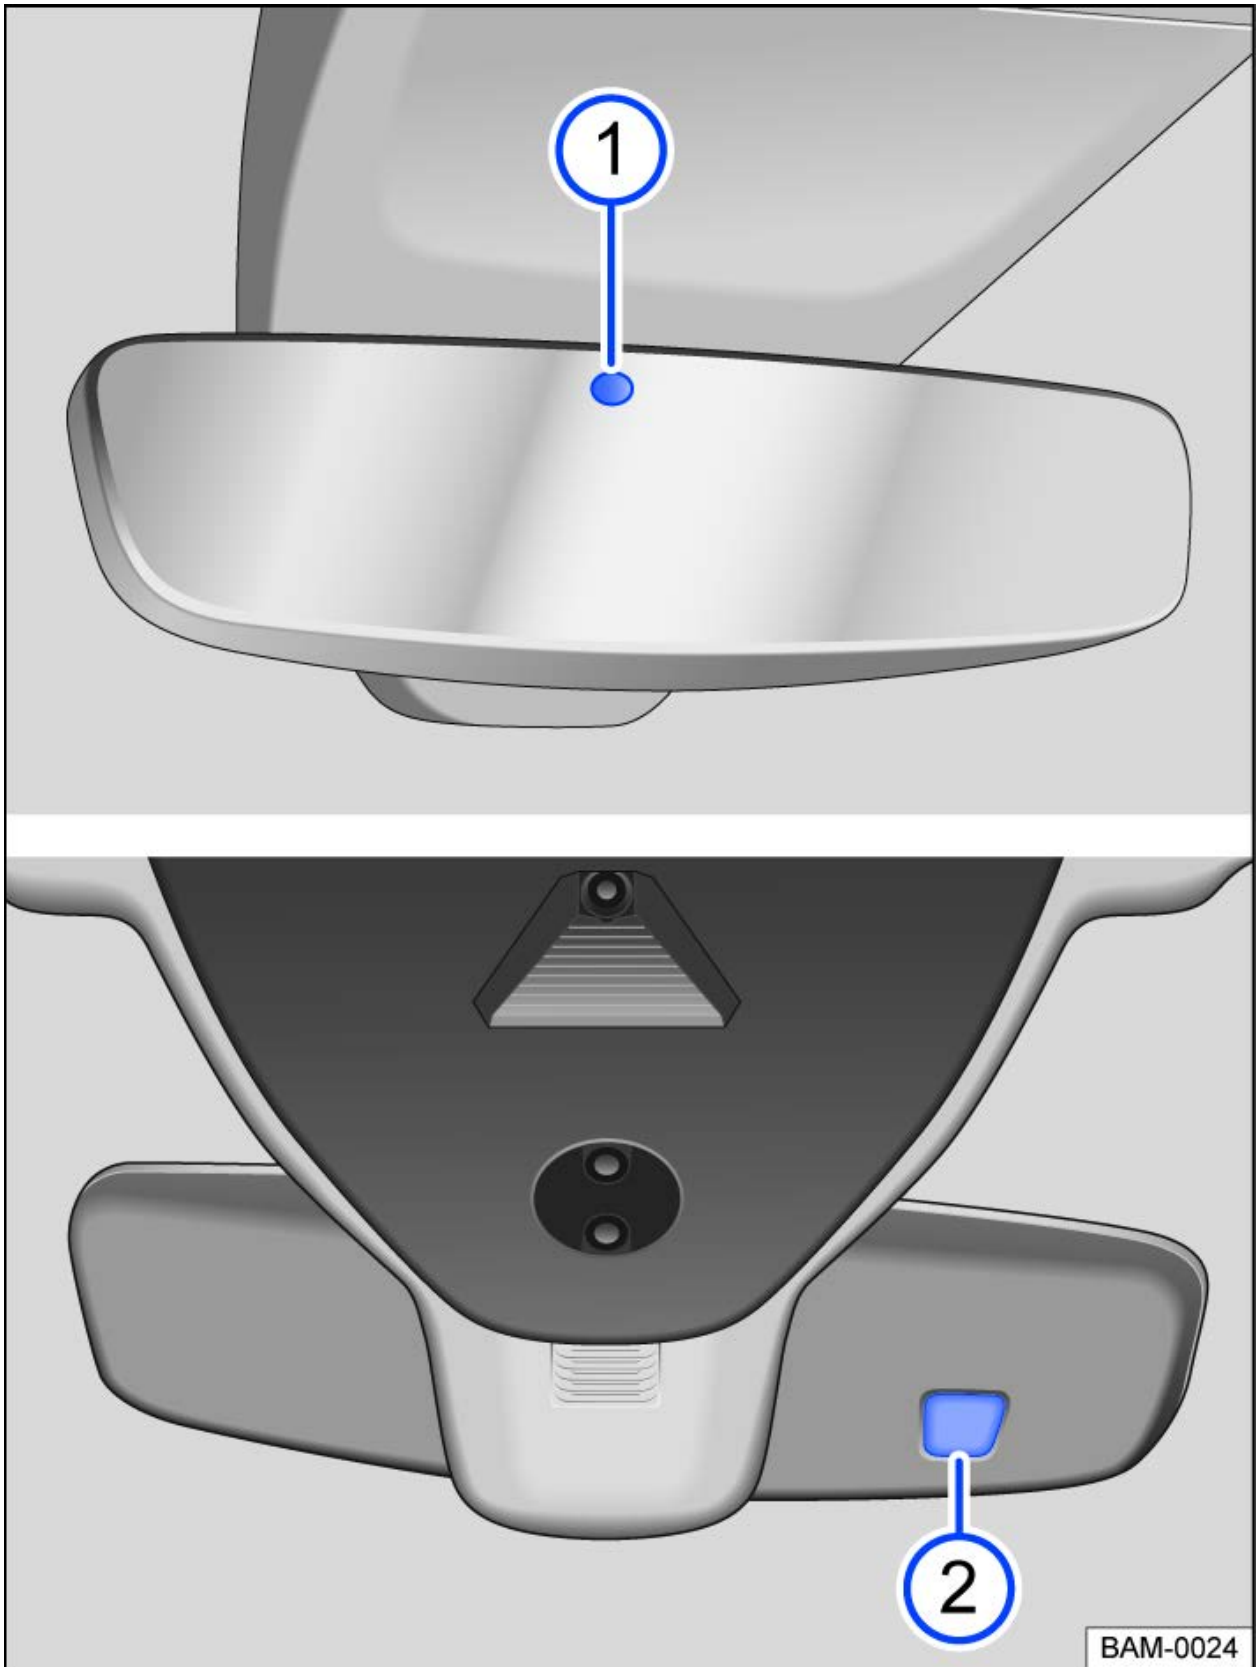

Fig. 1 On the windshield: automatic dimming rearview mirror.
When the ignition is on, the sensors measure the amount of light entering from the rear → *fig. 1* (1) and from the front (2).